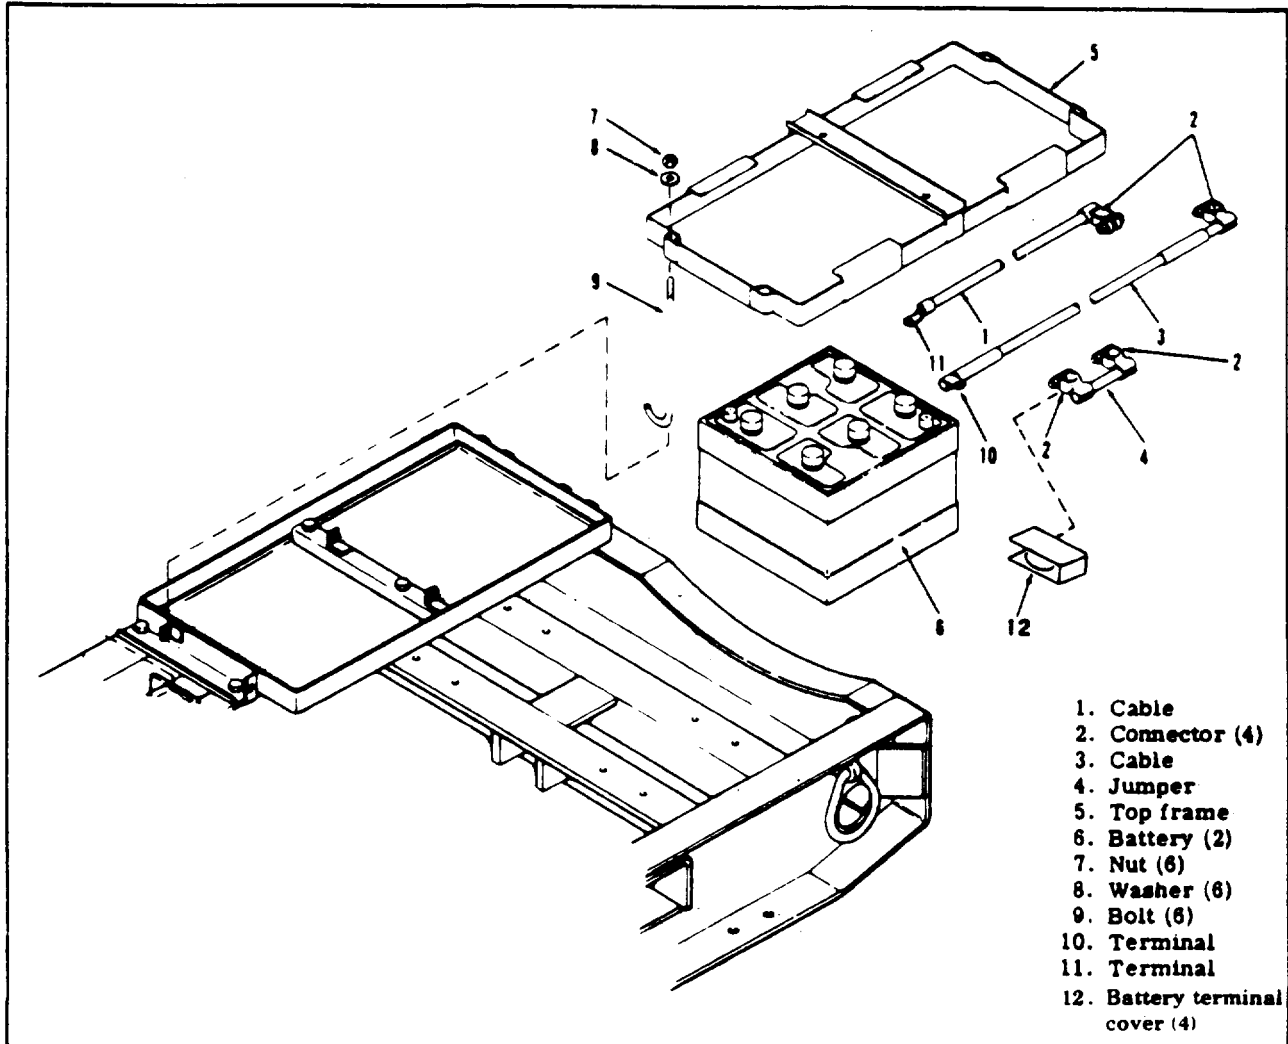

Figure 3-2. Battery Assembly
a. Inspect (see figure 3-2). On generators equipped with acoustic suppression (ASK), remove batteries access door.
(1) Inspect battery cable terminal connectors (2), (10) and (11) for corrosion, deterioration, or physical damage. Inspect battery terminal covers (12) for proper installation and physical condition. Replace if cracked, split or tom.
(2) Inspect cables (1), (3) and (4) for breaks, damage and deteriorated insulation.
(3) Inspect battery top frames (5), bottom frame (12), and tray (13) for corrosion or physical damage. Check to see that batteries are held securely in place and that all attaching hardware nut (7), washer (8), screw (14), washer (15) and bolt (9) are securely in place.